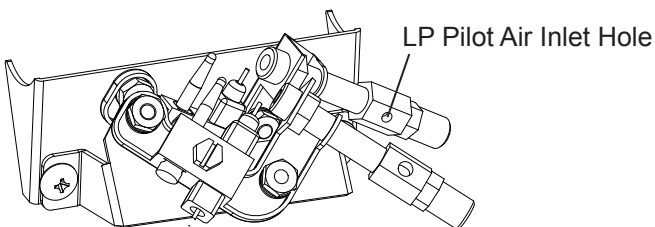

Fig. 34 - Pilot Inlet Air Hole (Propane/LP Gas)
6. In case any large clumps of dust have now been pushed into the burner repeat steps 3 and 4. Clean the pilot assembly also. A yellow tip on the pilot flame indicates dust and dirt in the pilot assembly. There is a small pilot air inlet hole about 2" from where the pilot flame comes out of the pilot assembly (see Figures 34 or 35 depending on model). With the unit off, lightly blow air through the air inlet hole. You may blow through a drinking straw if compressed air is not available.